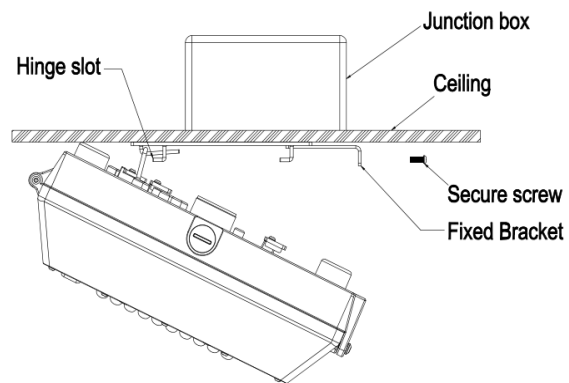

FIG.5
3. Install Fixture to mounting bracket by slipping the Back Steel Rod into Hinge slots, and remove your hands from Fixture allowing it to rest in Hinged position (see FIG. 5).